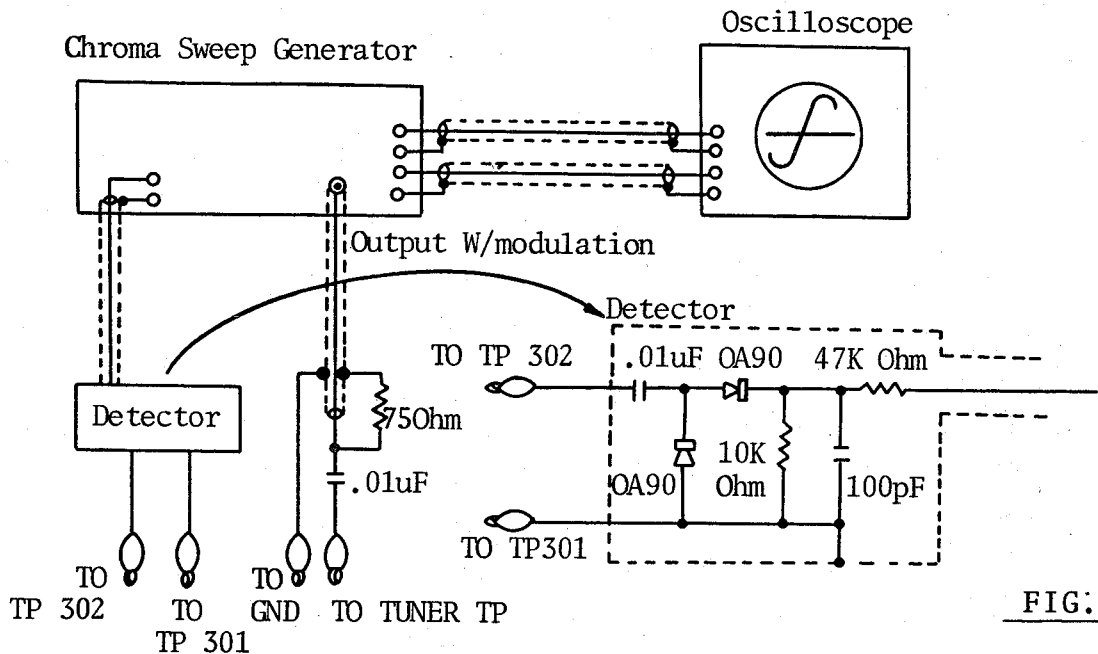

FIG. 9
A. PREPARATION STEP (SEE FIG. 9)